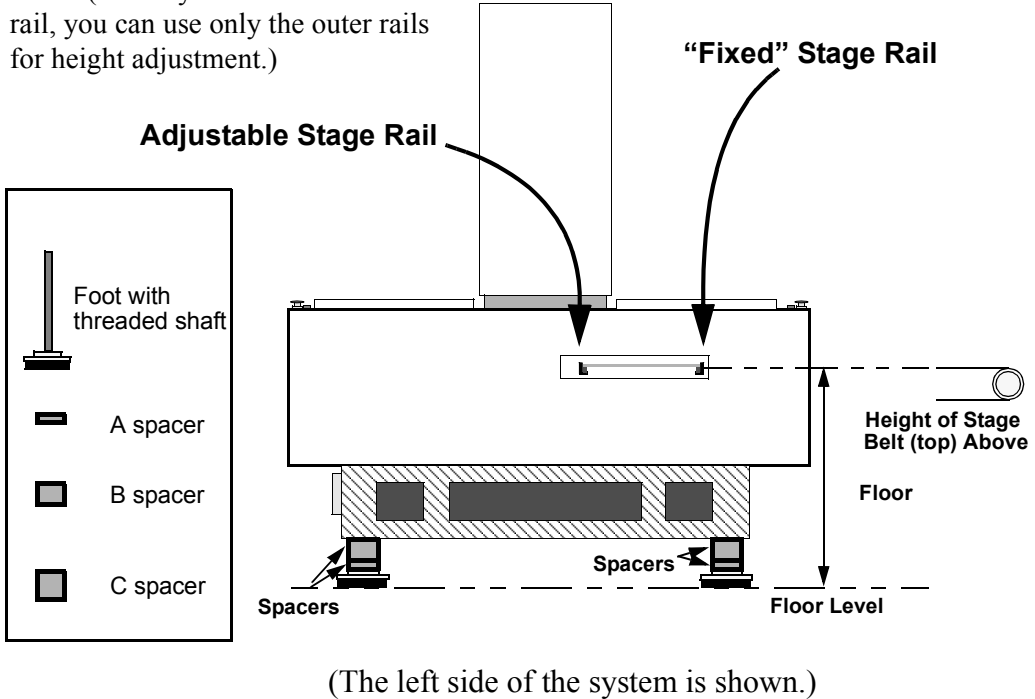

Figure 5 **Height Setup**
- 11. Verify that the system is level** — Adjust pads as required. This is done by turning the top of the threaded shaft (see Figure 5). Use a level inside the system on the granite base in various locations rather than on the top of the system. Check x and y orientation in all 4 corners.